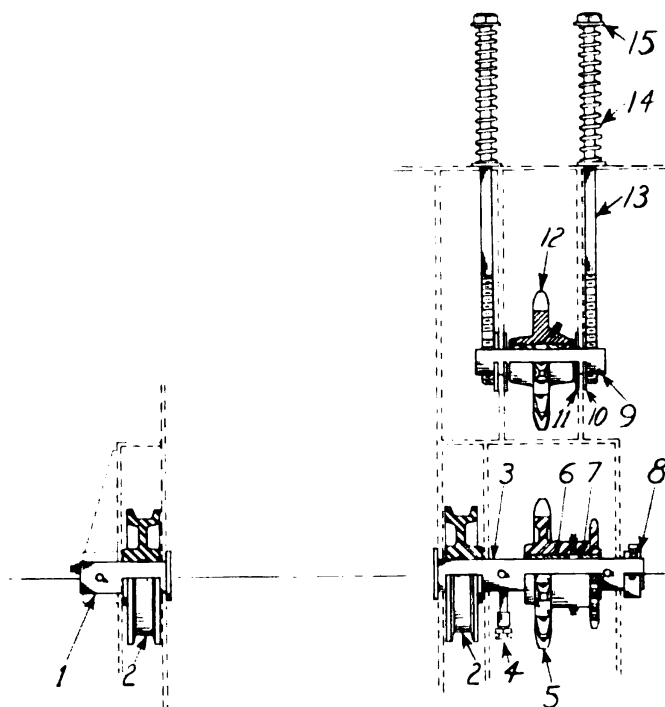

Figure 125. Conveyor drive chain takeup and pivot shaft.
This chain is in proper adjustment when the amount of sag in the chain from the take up sprocket to the headshaft is not less than 1" or more than 3". The adjustment of this chain is accomplished by taking up on the bolts 13, Figure 125 until the chain is in proper adjustment. Each bolt should be taken up an equal amount to maintain proper sprocket and chain alignment.
Either pivot shaft (1) or (3), Figure 125 may be removed without disturbing the other. Any single disassembly operation in the Overhaul section may be performed without removing any parts except those which are to be replaced.